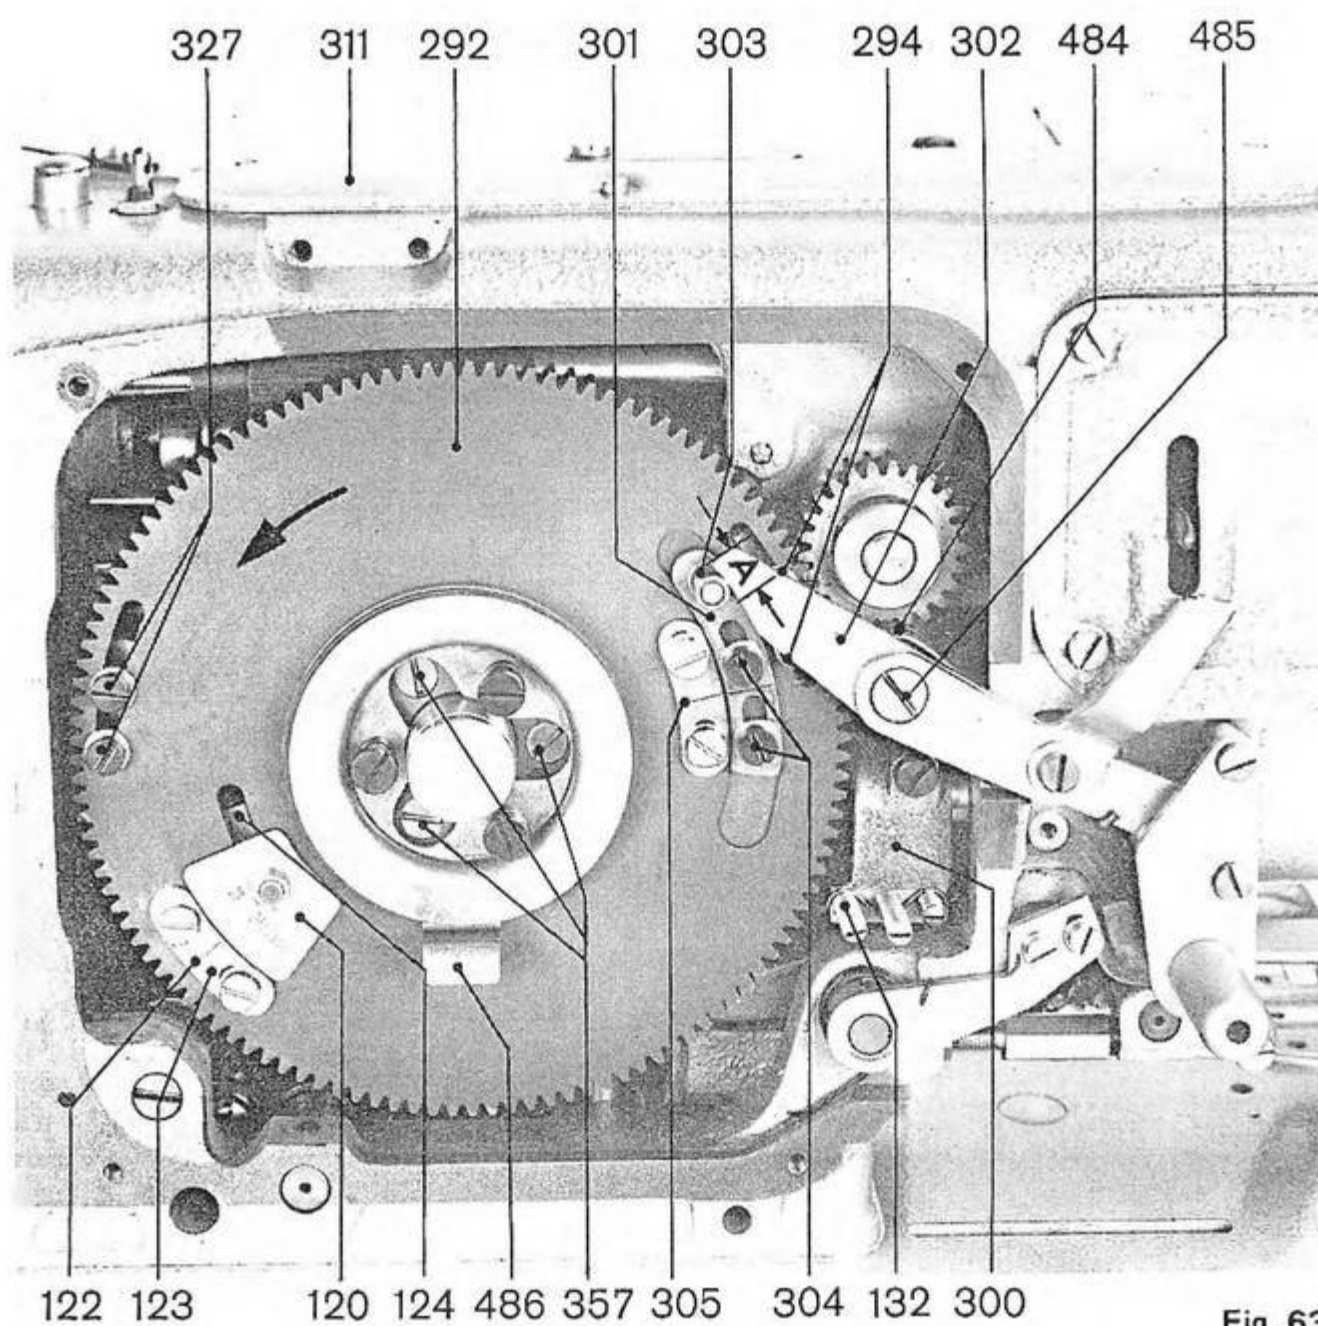
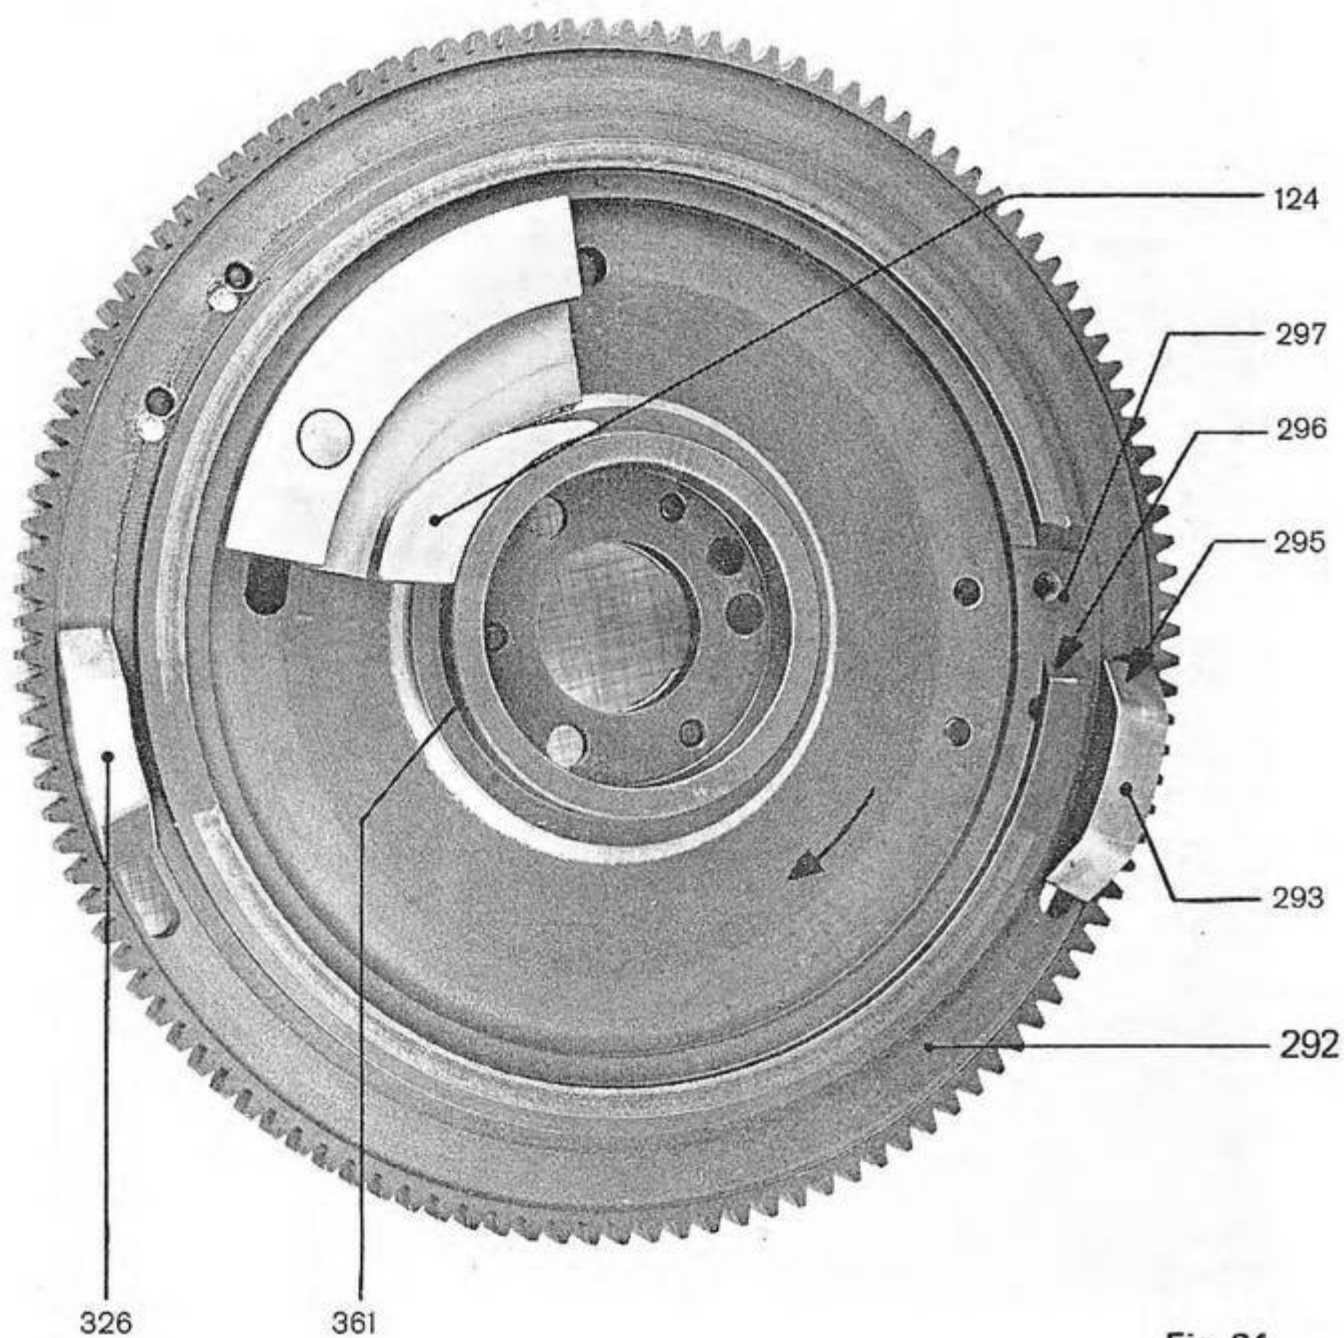
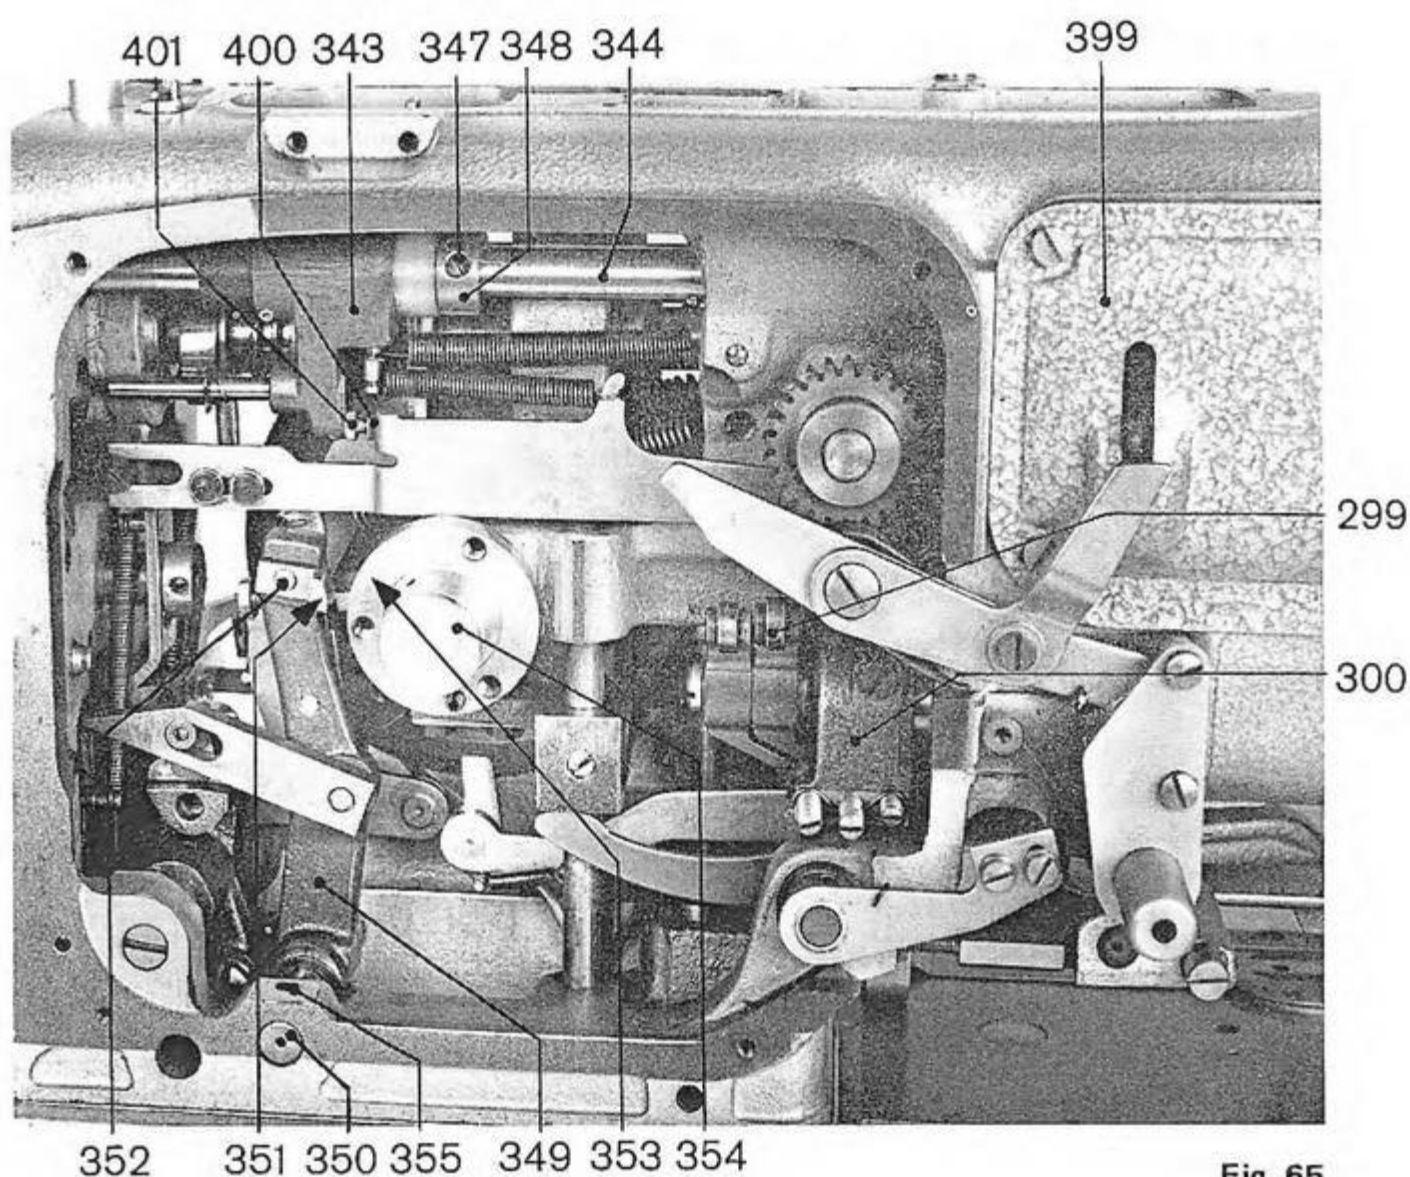

Fig. 63
Fig. 64
Fig. 65
2. Remove the control cam 292 (figs. 63 and 64) according to chapter 41.
3. Loosen the screws 294 (fig. 64) and set the bartack cam 293 (fig. 64) so that seen in the direction of rotation (arrow direction) of the control cam the end 295 (fig. 64) of the final bartack cam 293 is flush with the beginning 296 of the milled cavity 297 for the locking stitches. See fig. 64.
With the flat belt removed, engage the machine by hand. Turn the crank 1 (fig. 3) until the final bar cam 293 (fig. 64) is on the roller lever 299 (fig. 65) and the block 300 is thereby moved sideways. Turn the clutch disk in the direction of rotation until the machine and the control cam 292 (fig. 63) are in the position in which the roller lever 299 (fig. 65) has just left the final bartack cam 293 (fig. 64) and the block 300 (fig. 65) is again in its neutral position.
Continue turning the clutch disk in the direction of rotation and count the stitches until the block 300 (fig. 65) begins to move again sideways. At the end of this cycle the machine, operated by hand, will be disengaged. For starting a further cycle, the machine must be engaged by hand.
7. After having determined the number of locking stitches, proceed to an accurate adjustment and set the disengaging cam 124 (figs. 64 and 66) so that about $\frac{2}{3}$ of the number of the locking stitches are sewn prior to the disengagement and $\frac{1}{3}$ at the commencement of the new sewing cycle.
After resetting the disengaging cam 124 (fig. 31) check subsequently, according to the following item b), also the position of the roller elbow 301 (fig. 63).
The timing of the machine disengagement, described above under items 1 to 7, is not required in **machines of new design**, i.e. in which the disengaging cam 124 (fig. 63) is fitted with the scale plate 120.
Varying with the number of stitches per buttonhole, set the figure on the scale plate 120, which is nearest to the number of stitches per buttonhole, against mark 122 (fig. 63) of the shackle 123. Thus the disengagement will be properly timed.
By intermediary of the lever 302, the roller square 301 (fig. 63) moves the upper thread scissors to the front. With the disengaging cam adjusted according to the above item a), set the roller square 301 so that with the machine disengaged in its final position, the roller 303 stands in the upper half (area "A" in fig. 63) on the sliding surface of the lever 302 (also for few stitches per buttonhole).
In machines of new design the roller square 301 (fig. 63) has a division mark. The adjustment is correct if this mark coincides with the division mark of the shackle 305.